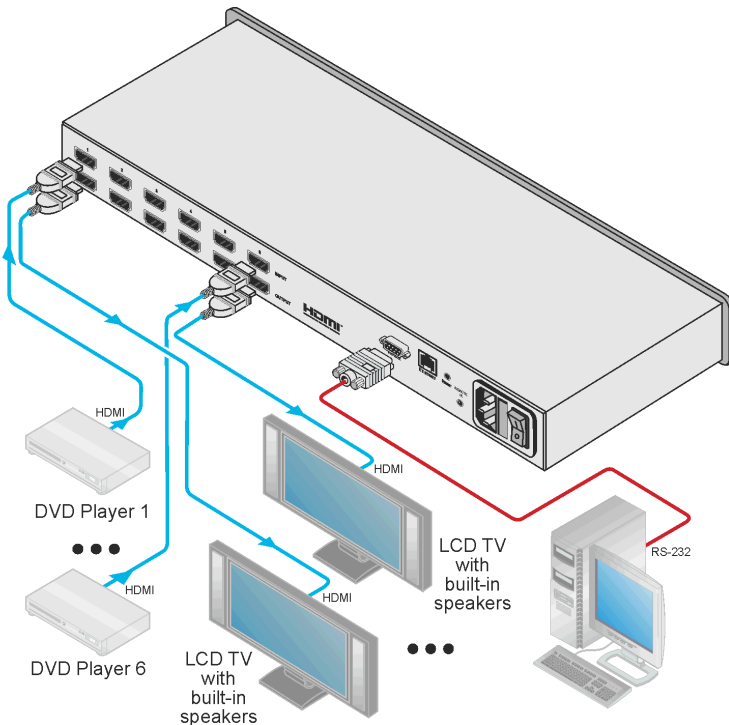

Figure 3: Connecting the VS-66H3 6x6 HDMI Matrix Switcher
To connect1 the VS-66H3 6x6 HDMI Matrix Switcher as illustrated in the example in Figure 3:
4. Connect the device to the mains electricity (not shown in Figure 3).